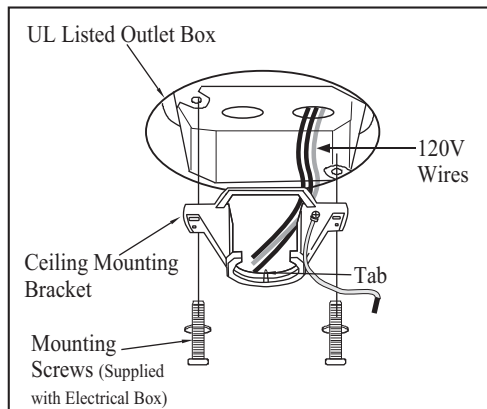

Figure 9
1. Pass the 120-volt supply wires through the center hole in the ceiling mounting bracket as shown in Figure 9.
2. Install the ceiling mounting bracket on the outlet box with the screws and washers provided with your outlet box (Figure 9).